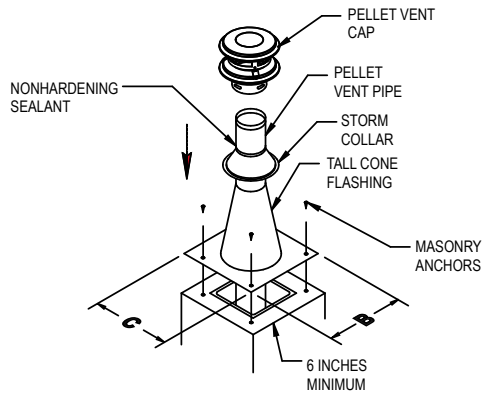

Figure 13
11. For the termination of the pellet vent, you will use a Tall Cone Flashing, and a Storm Collar. This will require 14 inches of pipe above the top of the masonry chimney. Pull the pipe up through the flashing to the desired height. Mark where the Storm Collar will go. Slip the Storm Collar down over the pipe, and affix it to the pipe with a 1/4"-long stainless steel sheet metal screw. (Figures 13 & 14). The Storm Collar will then support the entire vent system. Install the Cap. Seal the joint at the Storm Collar, and any other joints or seams which